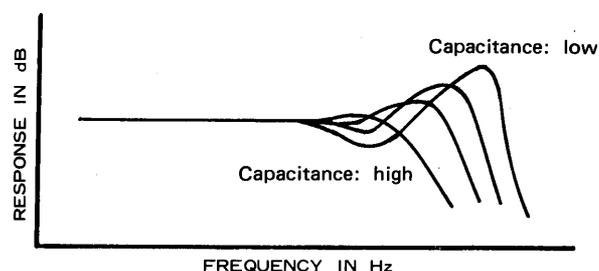

Fig. 6
In general, moving magnet (MM) type cartridges possess high frequency peaks as shown in Fig. 6. By varying the load capacitance (CpF), as shown in Fig. 6, the resonance frequency (peak center frequency) can be varied. Increasing the capacitance both lowers the resonance frequency and varies the peak height. Various types of high frequency characteristics can be obtained by selecting the CARTRIDGE LOAD switch position. Employ in the following manner.
Since the example in Fig. 6 shows typical high end frequency curves, adjust switch for the desired response while listening to the record playback.